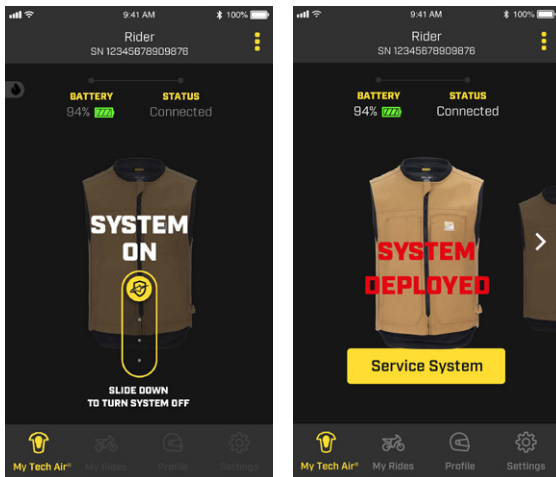

Figure 19
While riding, "SYSTEM ON" mode is active and accordingly, for safety reasons, the user cannot access most of the App functions. In case the System needs to be disabled by the user, such as during a heavy off-road riding session, the System can be turned off using the slide icon on the App (as shown in Figure 19). To reactivate, open and close the Activation Zip (1).
In case of deployment, the App will show the relevant status with the wording "SYSTEM DEPLOYED" as depicted in Figure 19.